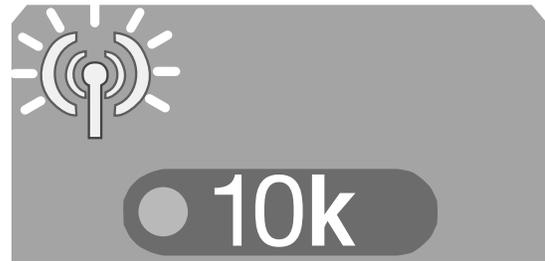

Figure 36: Wireless LED
4. Turn ON puller, keeping the foot switch depressed, and wait for the blue wireless LED to start blinking. This should take about 7 seconds. (Fig.36)